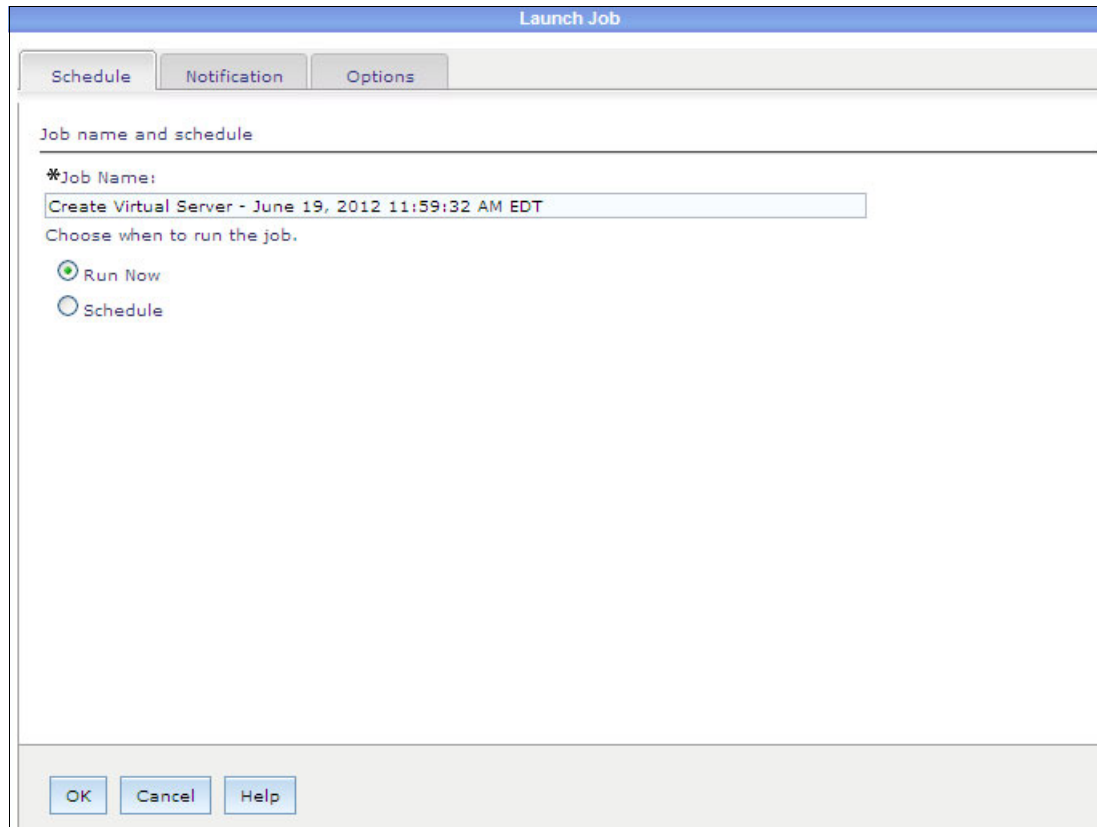

Figure 11-13 Create Virtual Server Launch Job window
13. Click **OK** in the Launch Job window to start the virtual server creation immediately as shown in Figure 11-13.